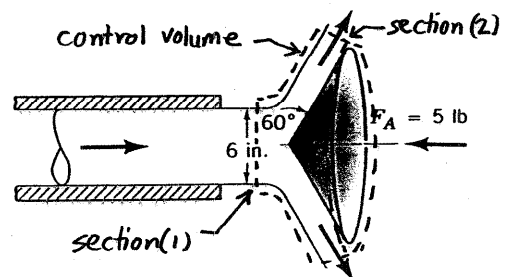

FIGURE P5.49
5.49 A horizontal circular cross section jet of air having a diameter of 6 in. strikes a conical deflector as shown in Fig. P5.49. A horizontal anchoring force of 5 lb is required to hold the cone in place. Estimate the nozzle flow rate in ft³/s. The magnitude of the velocity of the air remains constant.